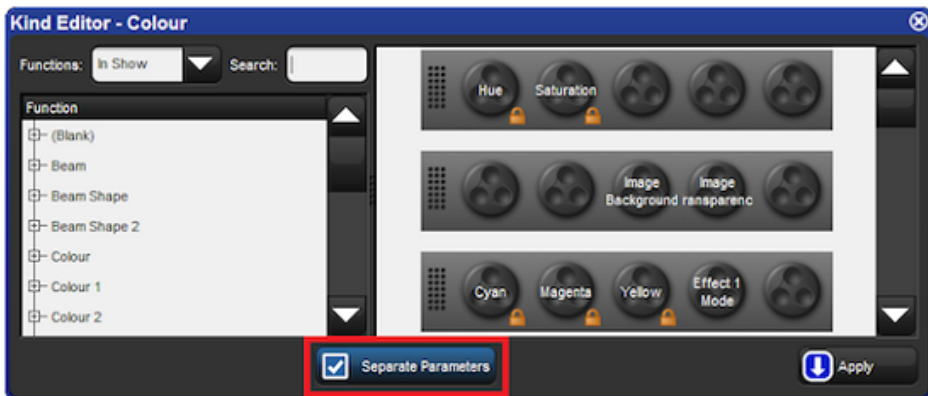

Figure 6.16. A Kind Editor for the Colour kind with seperate parameters turned on.
2. Toggle separating parameters on and off by pressing the parameter type buttons; see Figure 6.16, “A Kind Editor for the Colour kind with seperate parameters turned on.”.